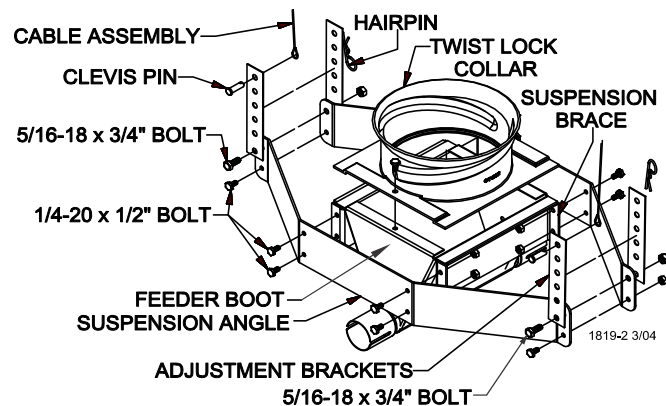

Figure 19.
4. Assemble suspension angles and suspension braces around feeder line boot (single or twin), using 1/4-20 x 1/2" Hex bolts and nuts (supplied in hardware package), see **figure 19**.
5. Assemble the twist lock collar to the top of the feeder line boot (single or twin) using 1/4-20 x 1/2" bolts and lock nuts (supplied in hardware package), see **figure 19**.
7. Two cable assemblies (cable with a sleeve clamp and a 5/32 thimble) are supplied with the suspension kit to support the hopper. Attach the cable assemblies to the adjustment brackets using the top holes of the adjustment brackets, see **figure 19**.